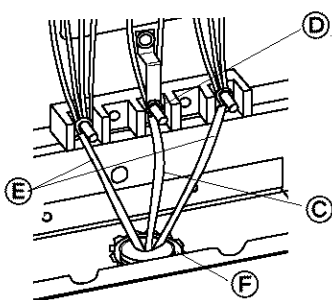

Figure 1
9. Connect the other two wires Ⓖ to outer terminal screws on the terminal block. See Figure 1.